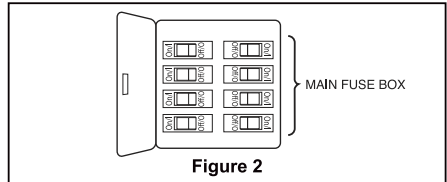

Figure 2
- ☐ 2. Securely attach and tighten the canopy screw cover over the shoulder screws in the hanger bracket utilizing the keyslot twist-lock feature. (Figure 2)